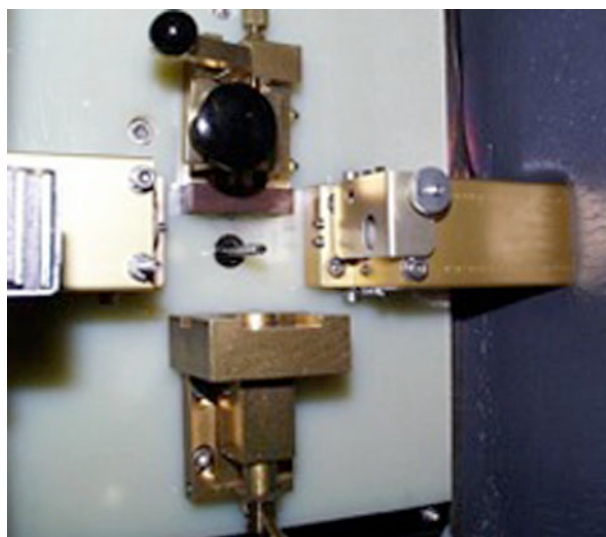

Figure 2-17, "L" Bracket Installed Covering Sulfur Optic Light Pipe
3. To activate the view to the sulfur optic, the "L" bracket must be removed from the sulfur optic light pipe. Unscrew the round knurled nut that holds the "L" bracket in place and remove it from in front of the sulfur light pipe, Figure 2-17